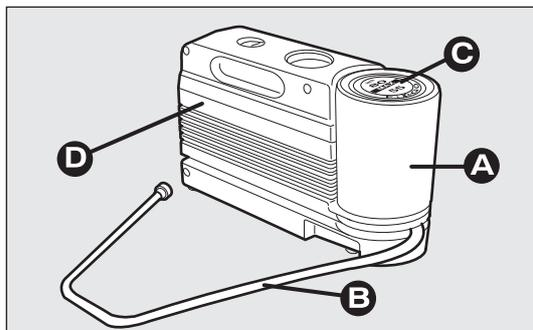

fig. 132
The kit fig. 132 includes:
- a compressor D-fig. 132 including gauge and connections, in the container;